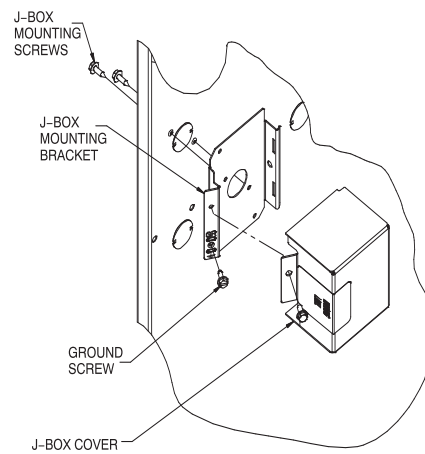

Fig. 34 – Installing J-Box (When Used)
The J-Box cover, mounting bracket and screws are shipped in the loose parts bag included with the furnace. See Fig. 34 for J-Box mounting locations.
1. Install J-Box mounting bracket to inside of furnace casing. See Fig. 34.
- Connect field ground wire and factory ground wire to green ground screw on J-Box mounting bracket as shown in Fig. 34.
- Attach furnace J-Box cover to mounting bracket with screws supplied in loose parts bag. Do not pinch wires between cover and bracket. See Fig. 34.
- Install J-Box mounting bracket to inside of furnace casing. See Fig. 34.